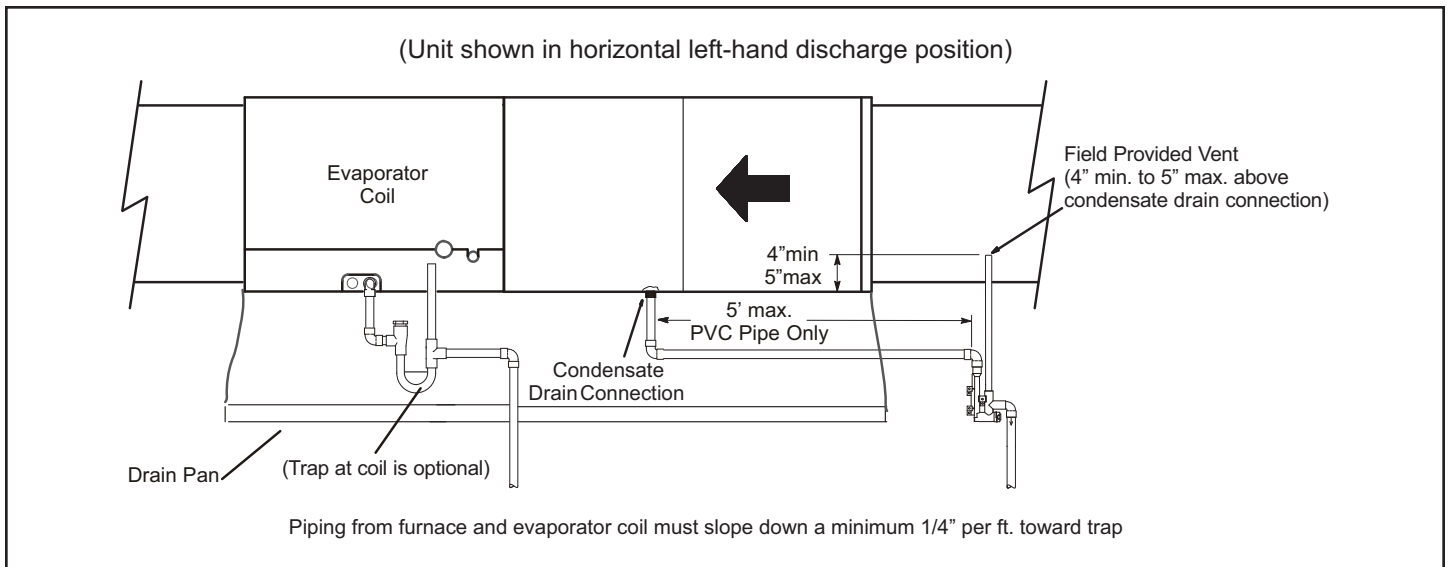
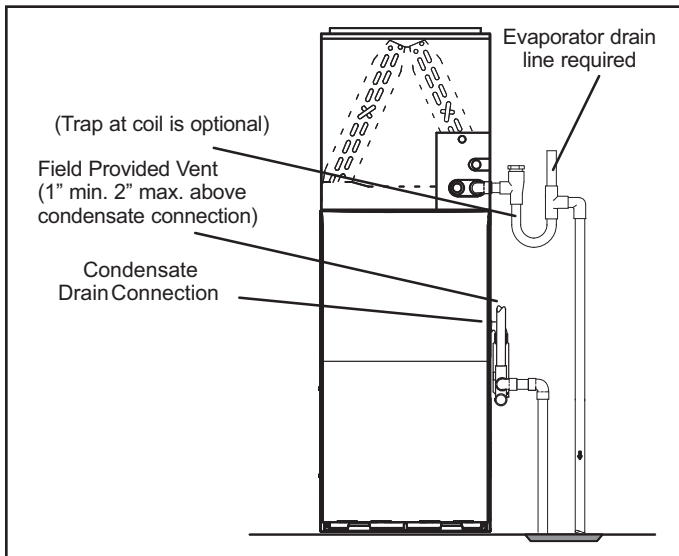
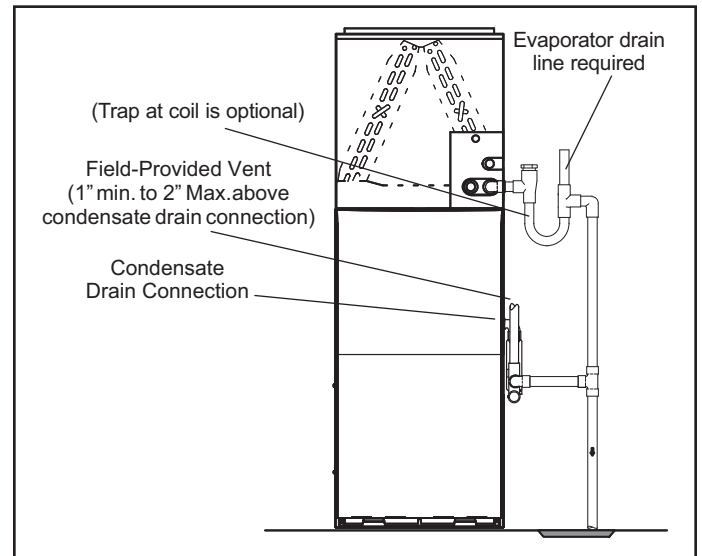
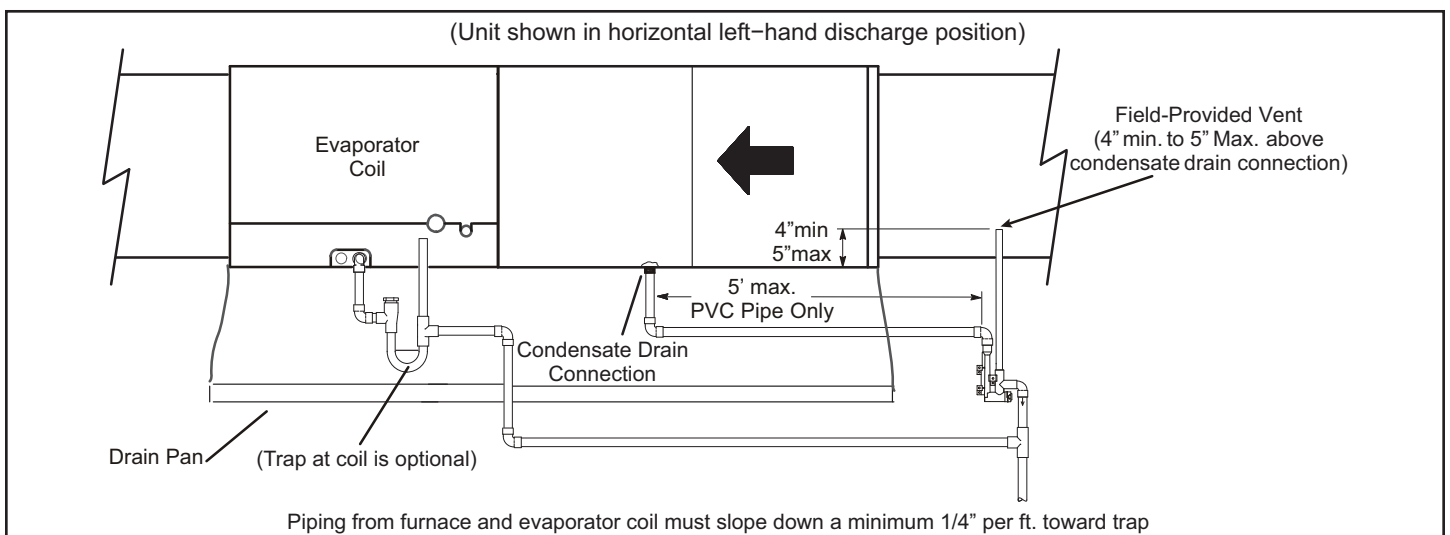

Figure 33. Furnace with Evaporator Coil Using a Separate Drain
Figure 34. Furnace with Evaporator Coil Using a Separate Drain
Figure 35. Furnace with Evaporator Coil Using a Common Drain
Figure 36. Furnace with Evaporator Coil Using a Common Drain
5. Figure 33 and Figure 34 show the furnace and evaporator coil using a separate drain. If necessary, the condensate line from the furnace and evaporator coil can drain together. See Figure 35 and Figure 36.
Horizontal furnace (Figure 33 or Figure 36) - In horizontal furnace applications, the field provided vent must be a minimum 4" to a maximum 5" length above the condensate drain outlet connection. Any length above 5" may result in a flooded heat exchanger if the combined primary drain line were to become restricted.